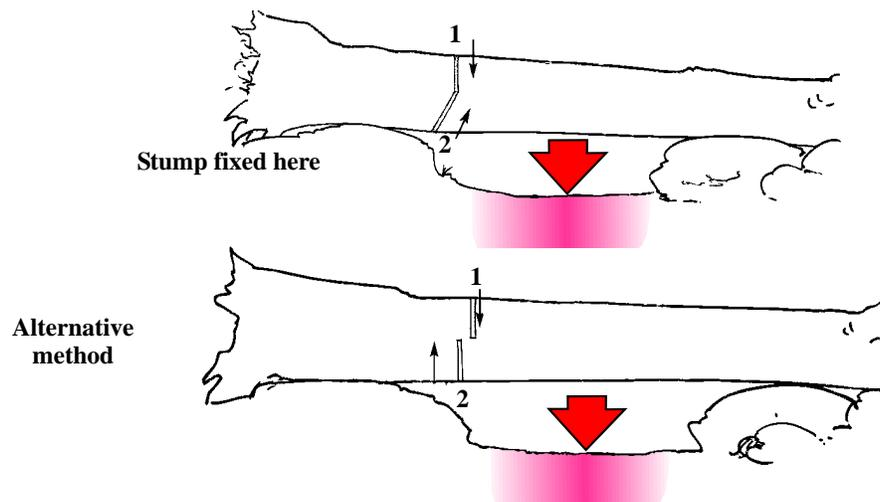

Figure 27: Sequence of cutting in case of a 'log trap'
**A Log trap occurs when one end of the log is unable to move (Fig. 27)**